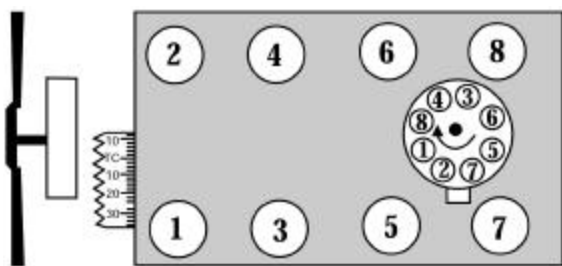

Figure 1 - 350-400 c.i.d Chevrolet V8
9. Remove distributor cap and wires, rotate engine until rotor points towards number 1 terminal in cap and pointer on front cover is on top dead center (TDC) and remove distributor (*See Fig. 1*). Make a note of the approximate position of the distributor housing in relation to the manifold to assist in getting the distributor properly located during re-installation.
1. Turn the engine over in direction of rotation until the No. 1 intake valve closes and continue until the pointer on the front cover is approximately five degrees before top dead center (BTDC) (See Fig. 1 for firing order).